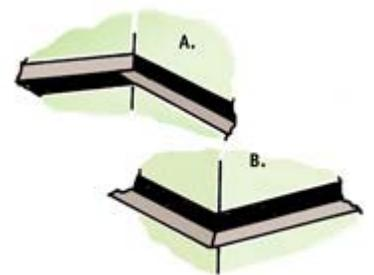

FIG. 8 - Overlap the inside corners and miter the outside corners.
- e) Overlap the wall angle on inside corners (A, Fig. 8), and miter the wall angle on outside corners (B, Fig. 8). Make a temporary wooden miter box if you don't have one. Cut any needed angles with metal cutting snips or a hacksaw.